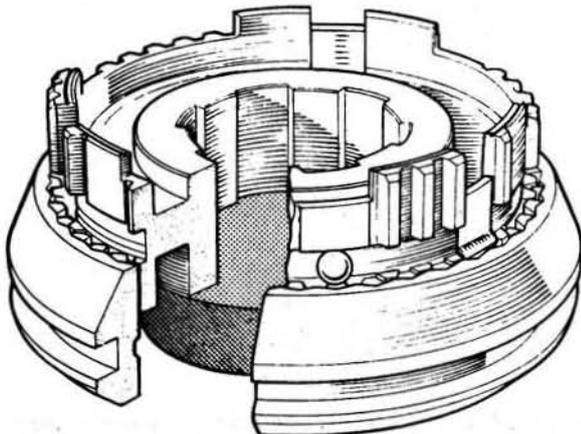

Fig.6.23. Fitting the springs, plungers and thrust members
- 3 Pack up the synchro hub so that the holes for the ball and springs are exactly level with the top of the operating sleeve as shown in Fig.6.23.